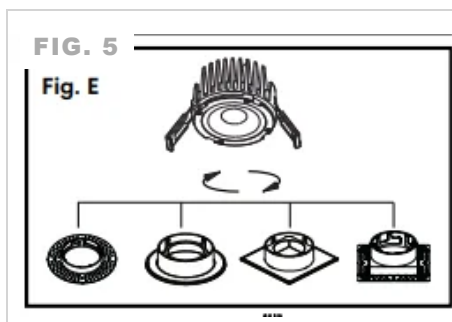

Fig. 5 · Trim mount on module
**01** Mount the appropriate trim (Round or Square) onto the module. (FIG. 5)